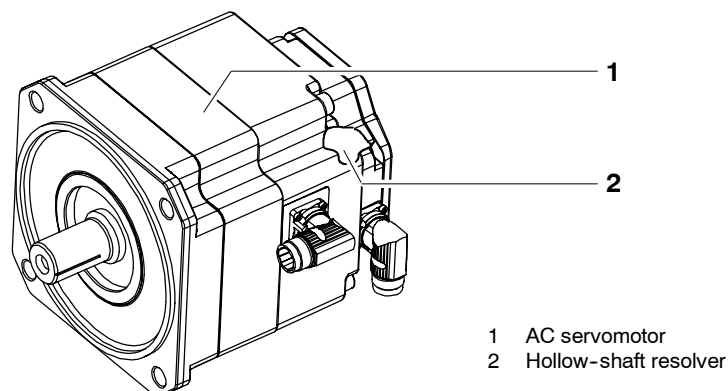

Fig. 6 Motor unit for main axis drive
The robot axes 2 and 3 (main axes) are driven by motor units as shown in Fig. 6. Each motor unit for the main axis drives consists of a brushless AC servomotor (1) with a permanent-magnet single-disk brake and hollow-shaft resolver (2), both integrated in the AC servomotor. The motor units for axes 2 and 3 have the same design, function, and rated power.